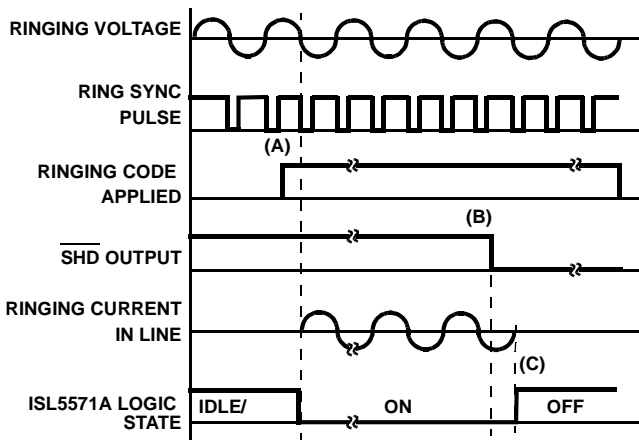

FIGURE 7. COEFFICIENT RAM OPERATION SCREEN
Figure 7 shows the sequence of events from ringing the phone to ring trip. The ISL5571A rings the phone when both the ringing code and ring sync pulse are present (A). $\overline{\text{SHD}}$ is high at this point. When the subscriber goes off hook the $\overline{\text{SHD}}$ pin goes low and stays low until the ringing control code is removed (B). This prevents the $\overline{\text{SHD}}$ output from pulsing after ring trip occurs. At the next zero current crossing of the ring signal, ring trip occurs and the ring relay releases the line to allow loop current to flow in the loop (C).